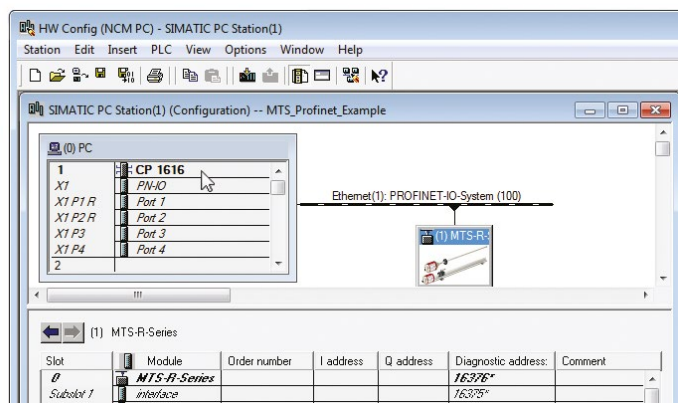

Fig. 73: Add sensor to the network (source: Siemens)
- Select for U401 the file “MTS R-Series firmware version 1.0 (EP)”. Drag and drop this file from the directory and drop it into the network (dashed line). The sensor has been added to the network (Fig. 73).